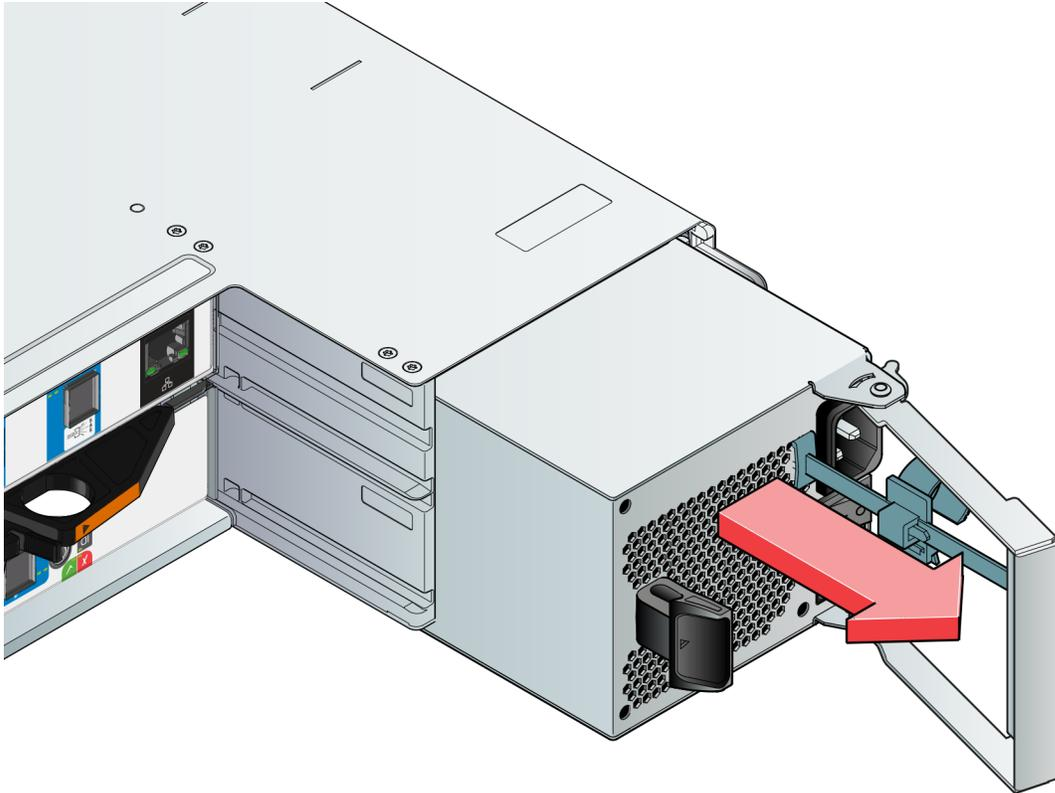

Figure 76. Removing a PCM (2)
4. Grip the handle and withdraw the PCM, taking care to support the base of the module with both hands, as you remove it from the enclosure. (See Figure 76 “Removing a PCM \(2\)” on page 77).